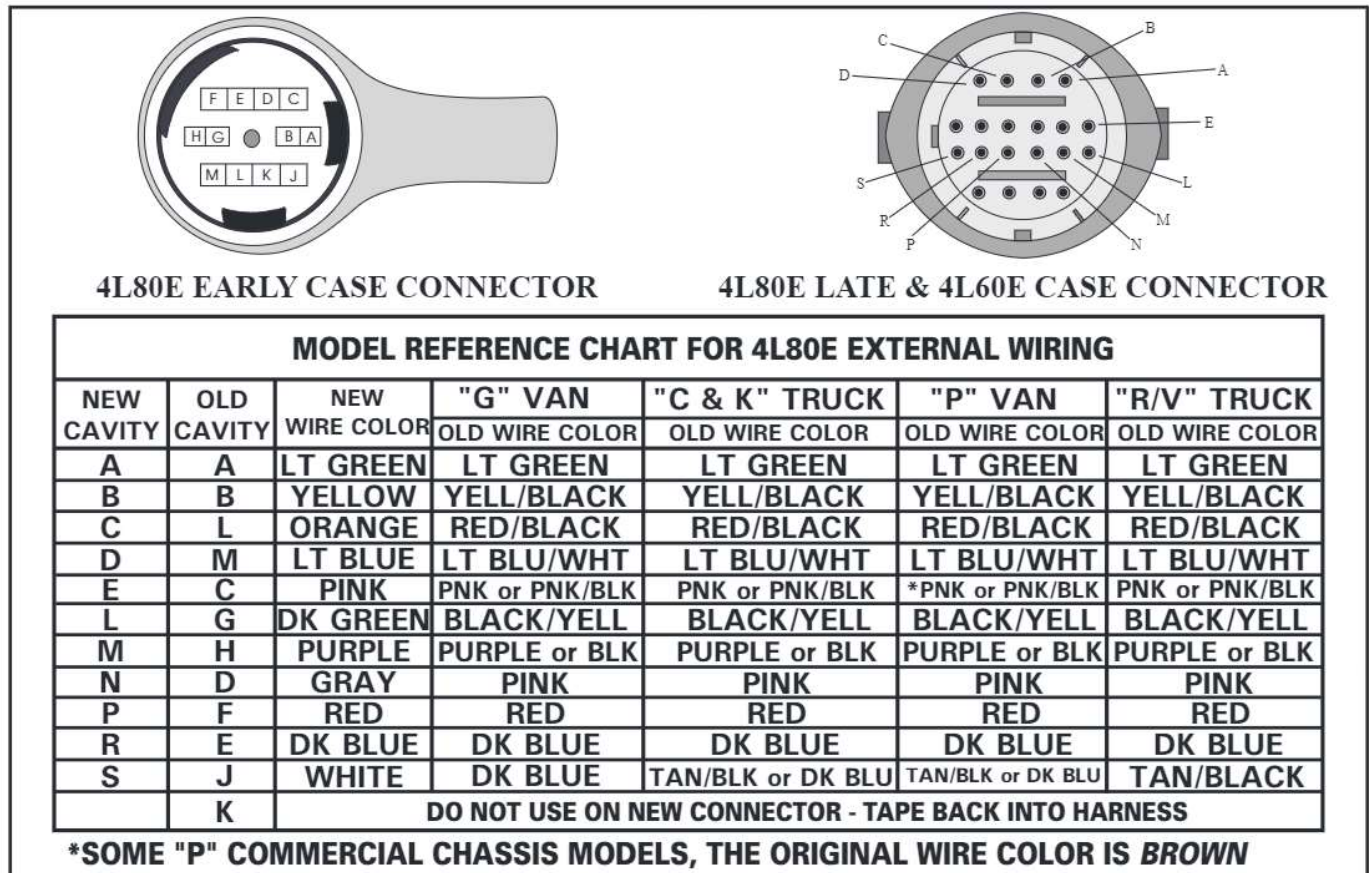

Figure 121
- Replacement of the internal wire harness for a 4L60E will include the TCC Enable Solenoid and is available from aftermarket sources. The internal wire harness for a 4L80E is available through the aftermarket. Any vehicle that still has the early style case connector will require updating to the current design level. Use the chart in Figure 121 to insure correct location of the external connector wiring. Be sure to stagger the splices approximately 1½ inches apart.